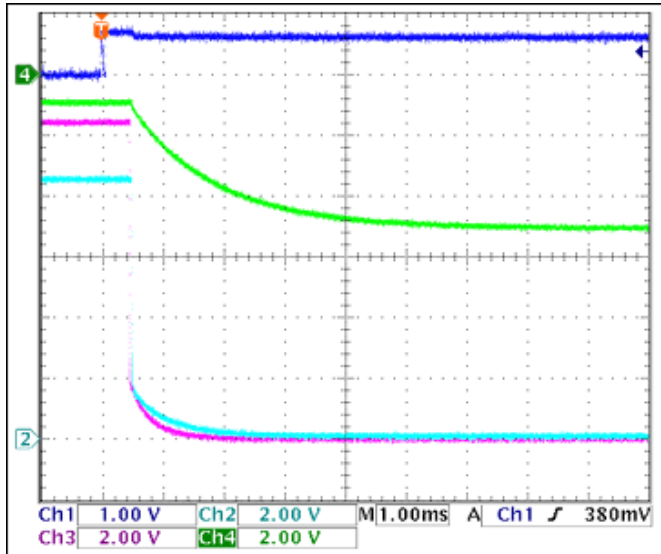

Figure 4. -5V gate turn-off in relation to +3.3V_{GATE}, no load
-5V load turn-off time = 1ms (see **Figures 4 and 5**)